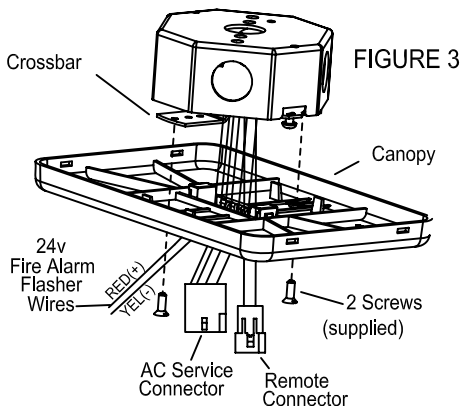

FIGURE 3
- 1) Connect one (1) remote lamp lead(s) wire(s) by wire nut to one (1) wire of the **Low Voltage Remote Lamp Head Output Wiring Harness** (See Figure 3).
- 2) Connect the remaining one (1) remote lamp lead(s) wire(s) by wire nut to the remaining one (1) wire of the **Low Voltage Remote Lamp Head Output Wiring Harness**.